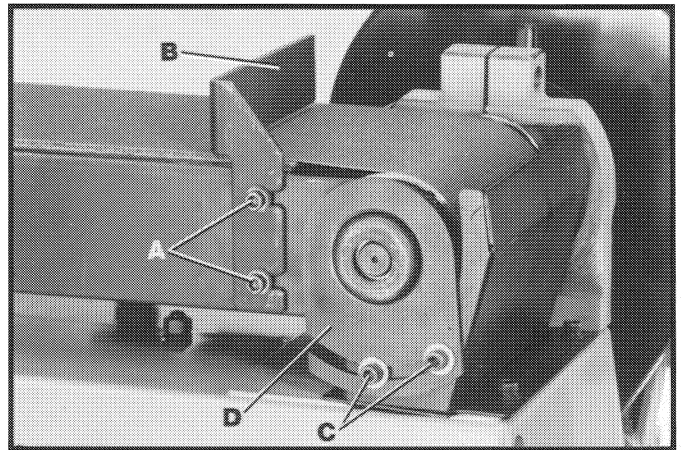
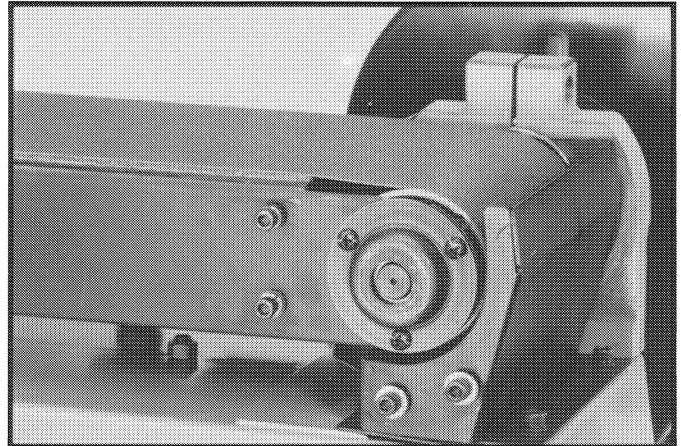

Fig. 40
Fig. 41
2. Remove upper sanding drum guard. Loosen two screws (A) Fig. 40, and remove backstop (B).
3. Loosen two screws (C) Fig. 40, and remove support bracket (D). Fig. 41 illustrates backstop and support bracket removed from the machine.